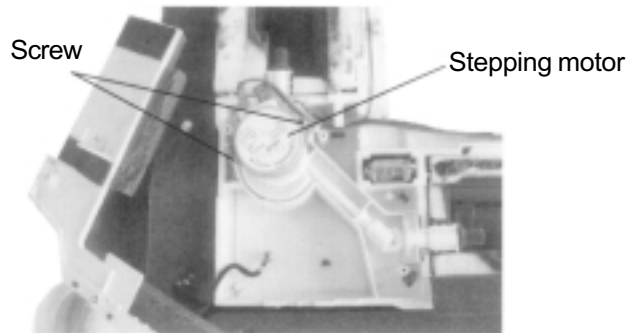

Figure 25
- ⑮ Disassemble the stepping motor.
- Using a screwdriver to unscrew the two screws as shown in figure 25.